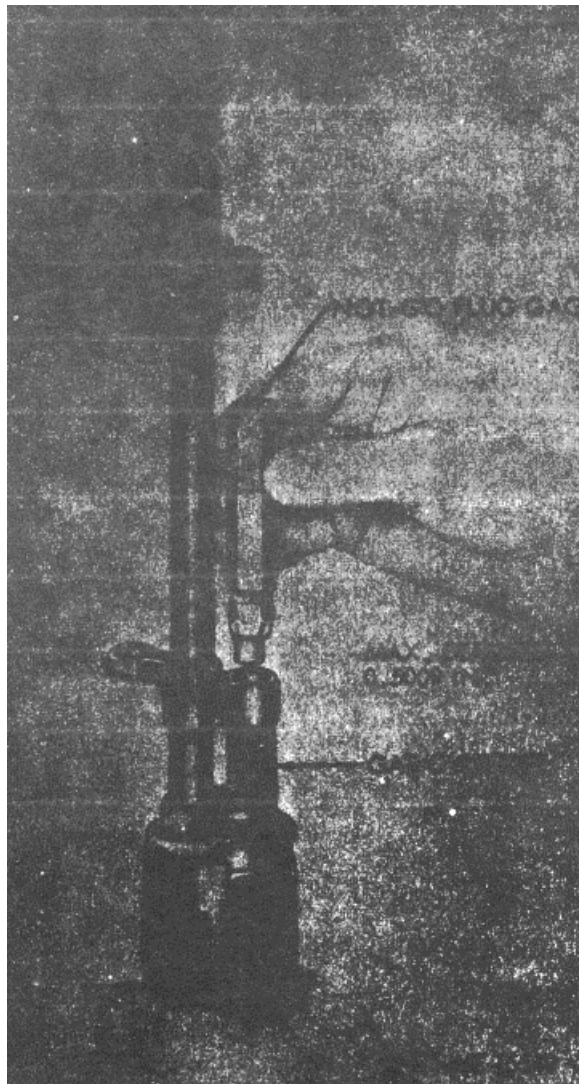

Figure 8-2. Checking diameter piston hole with Not-Go plug gage.
b. *Gas Cylinder.* Use Not-Go Plug Gage (fig 8-2) to check piston hole in gas cylinder. Hole must not exceed 0.5009 inch for serviceability.